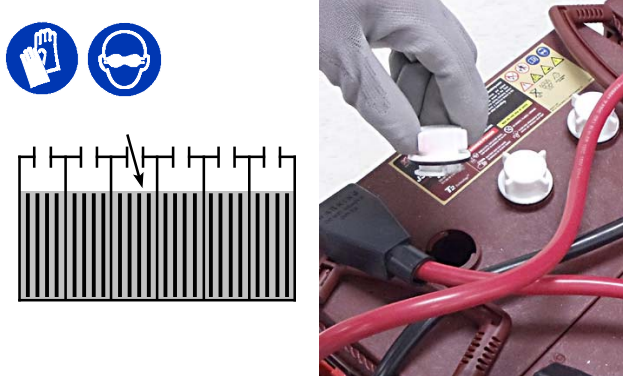

FIG. 63
1. Check the electrolyte level in all batteries (Figure 63). See BATTERIES.